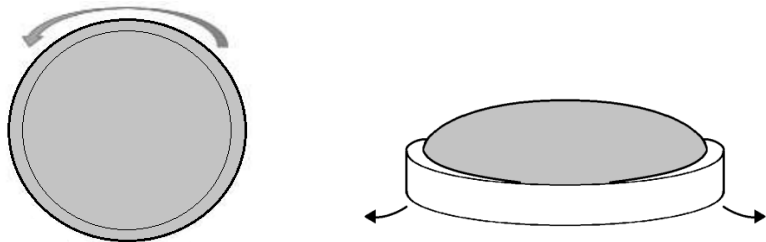

Fig. 1
- Remove the bezel surround by unclipping from the luminaire housing, then remove the diffuser by rotating anti-clockwise (see Fig. 1)